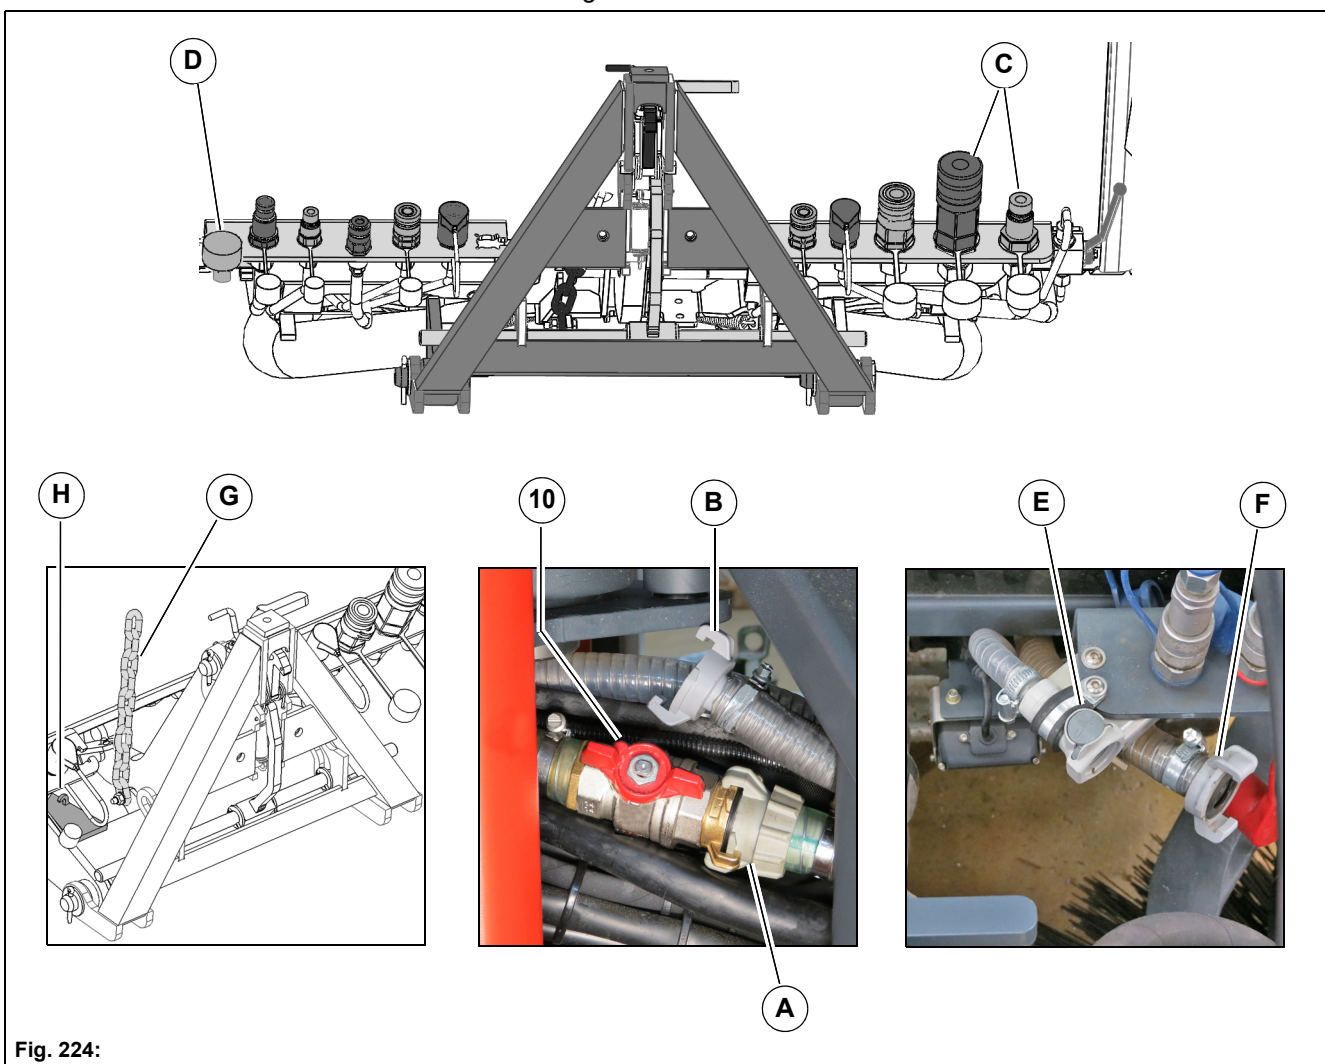

Fig. 224:
7. Remove the circulating water hose **Fig. 224-A** of the vacuum sweeping system at the ball cock.
8. Mount the yellow marked circulating water hose **Fig. 224-B** of the scrubbing deck (rotating coupler).
- Scrubbing deck hydraulic motors – Supply/return = **Fig. 224-C**
- 19-pin coding plug = **Fig. 224-D**
- Fresh water coupling (quick coupler) = **Fig. 224-E**
- Circulating water coupling (rotating coupler) = **Fig. 224-F**
10. Hook the chain **Fig. 224-G** onto the hook **Fig. 224-H**.